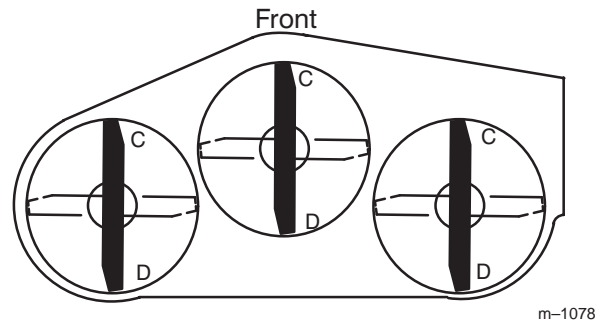
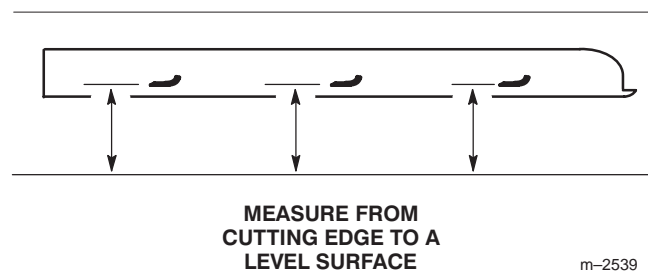

Figure 54
Figure 55
2. Position one blade front-to-rear (Fig. 54). Measure at **C** and **D** locations (Fig. 54) from a level surface to the cutting edge of the blade tips (Fig. 55).
4. Position the blades front-to-rear (Fig. 54). Measure at **C** and **D** locations (Fig. 54) from a level surface to the cutting edge of the blades (Fig. 55).